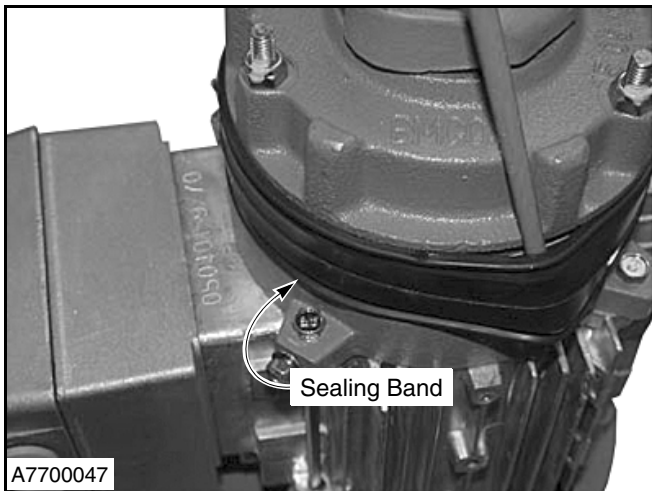

Figure 50
3. Remove sealing band. (See Figure 50.)